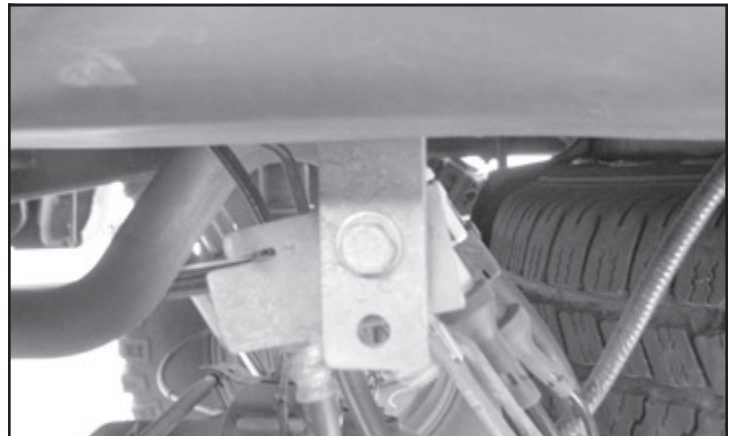

FIGURE 52 - STEP 46
46. Locate the factory brake line mount on the driver side of the frame. Locate the Fabtech brake line bracket (FT70033) and attach the bracket between the factory frame mount and the factory brake line. **SEE FIGURE 52**